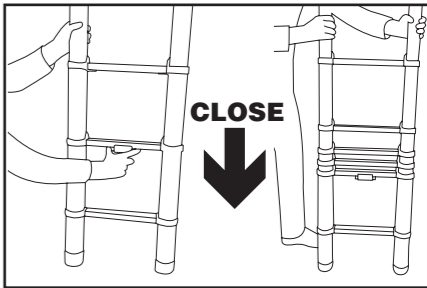

figure 6
- 3.1 Stand and support the open / extended product upright by firmly grasping one of the stile tubes part way up the ladder with one hand and then using your other hand, fully depress and then release both ladder lock release buttons (see figure 6) to unlock the lowest extended ladder section (note that the ladder sections will not descend / self-close when these buttons are depressed).